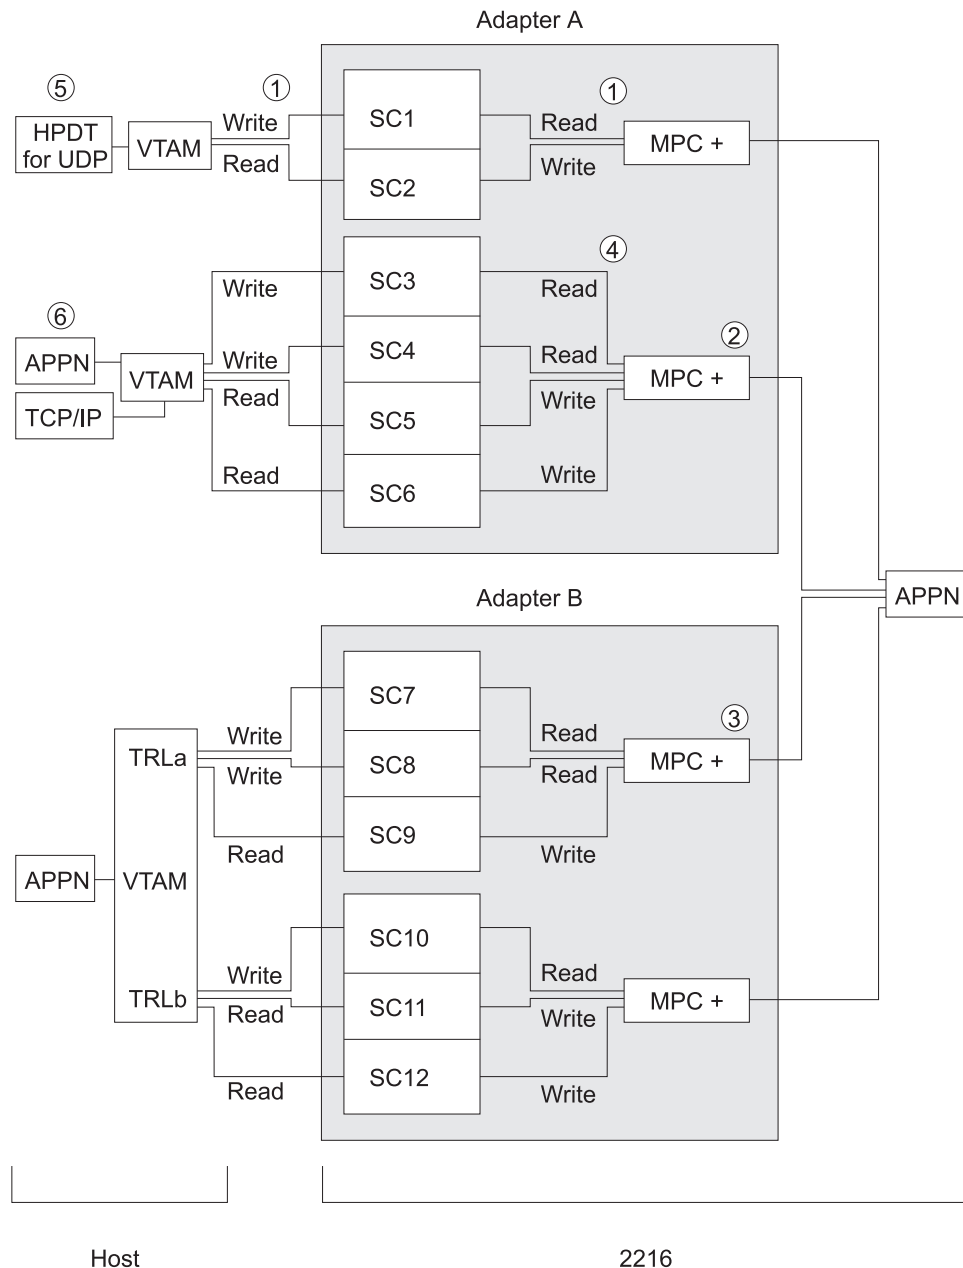

Figure 5-8. Rules for Definitions for MPC+
**Sample Illustration of the Rules for MPC+ Subchannels:** Figure 5-8 illustrates valid uses of subchannels for MPC+.